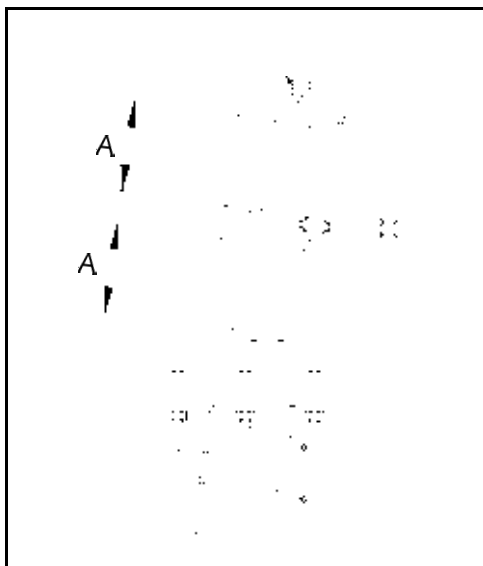

FIG 8.66
1. Adjust Hydra-Hug® suspension until dimensions above and below steering arm are equal (fig. 8.66, dim. A — See page 101).